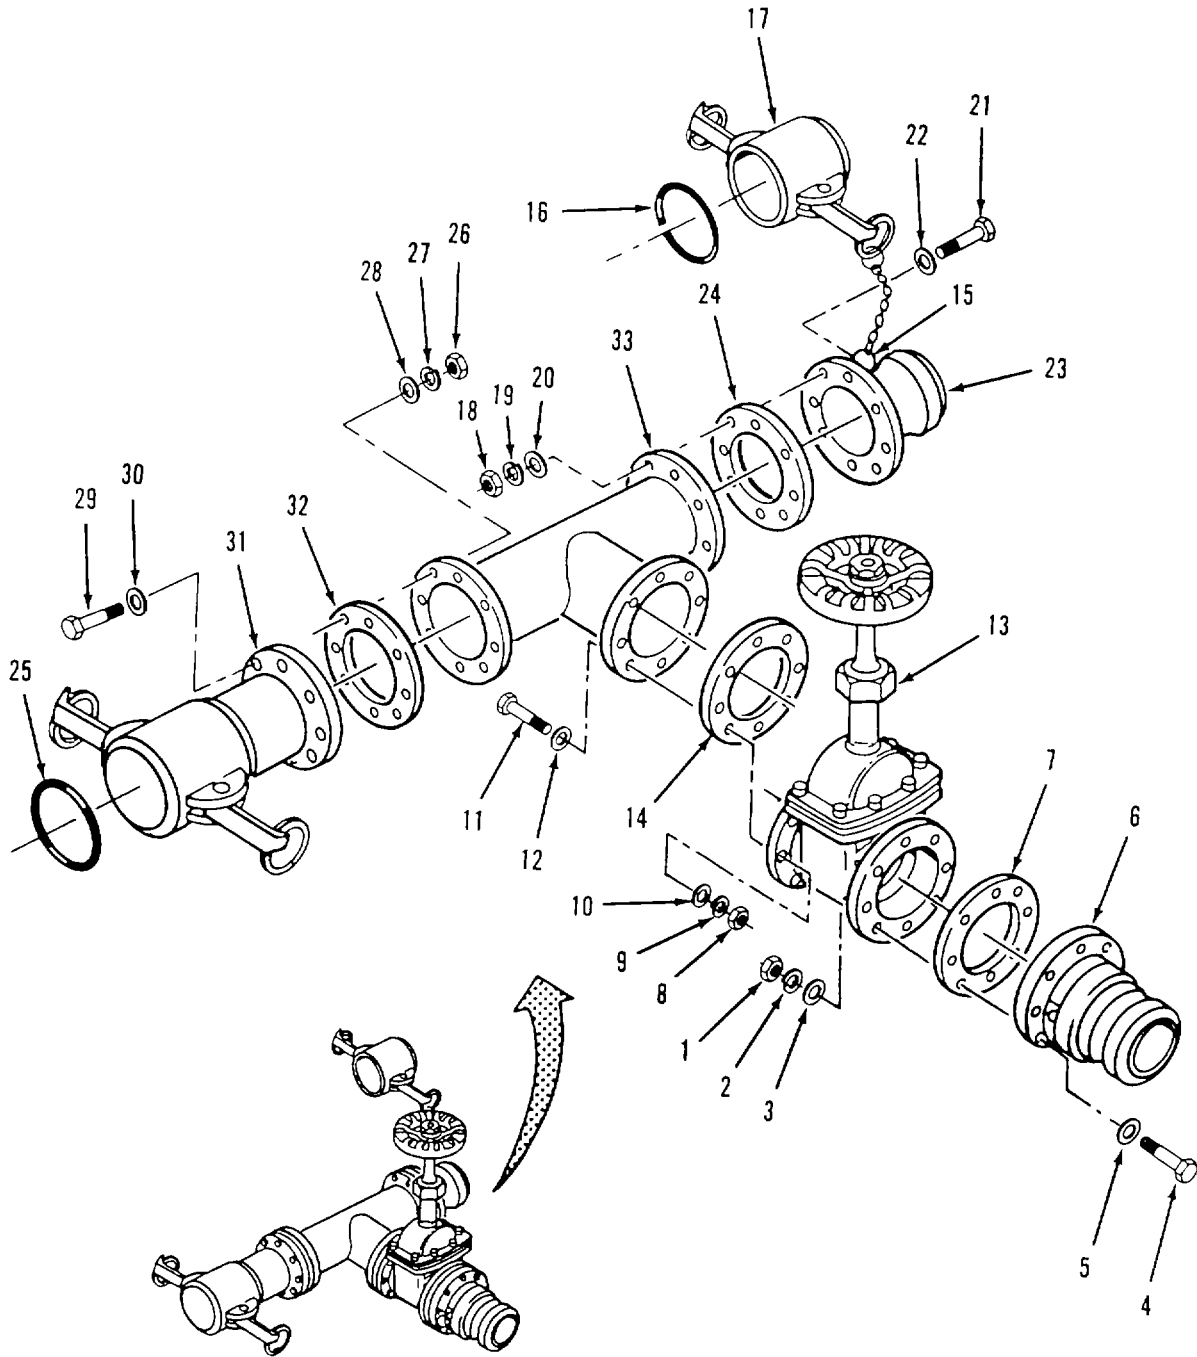

Figure 4-34. Tee and Gate Valve Assembly (9114-Y2) Assembly.
- (1) Refer to para. 4-27 to repair gate valve.
- (2) Replace defective components. Do not reuse sealing components.
c. Assembly. Refer to figure 4-34.
- (1) Position gasket (32) and female coupling (31) on tee (33).
- (2) Install eight flat washers (30), screws (29), fat washers (28) lockwashers (27) and nuts (26).